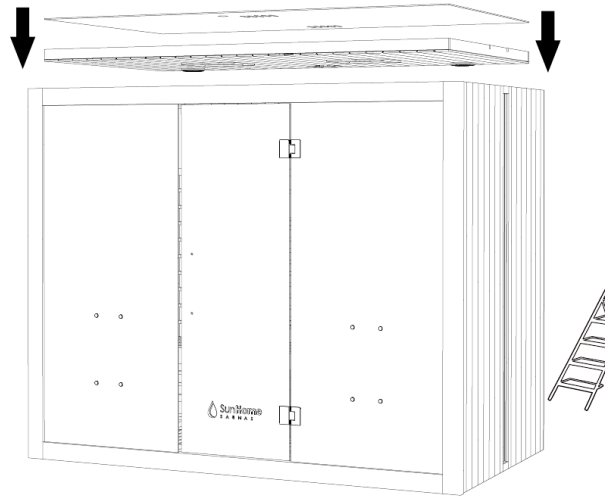

Figure 33. The Dust Cover positioned over the connections on the Ceiling Panel and secured with the twelve black 3 × 16 mm screws.
- With the Function Test passed and the power cord unplugged, position the Dust Cover over the connections on the Ceiling Panel, as shown in **Figure 33**.
- Using the power drill with the Phillips bit or the Phillips screwdriver, secure the Dust Cover with the (12) black 3 × 16 mm screws. Drive each screw until the head seats; do not over-tighten, which strips the thin cover.